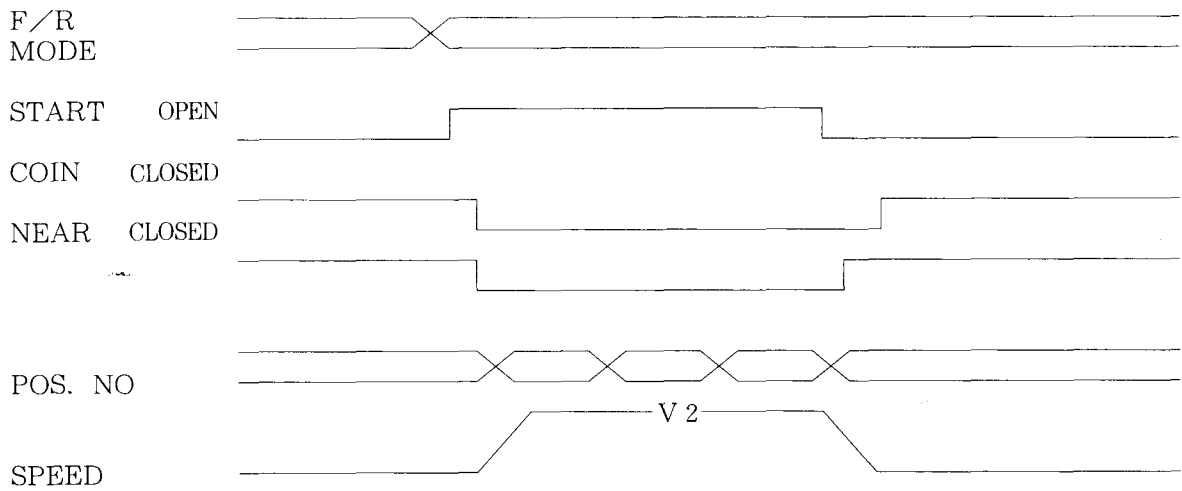

Fig. 4.11 Time Chart of Manual Operation
- **Time Chart** Fig. 4.11 shows the time chart of manual operation.